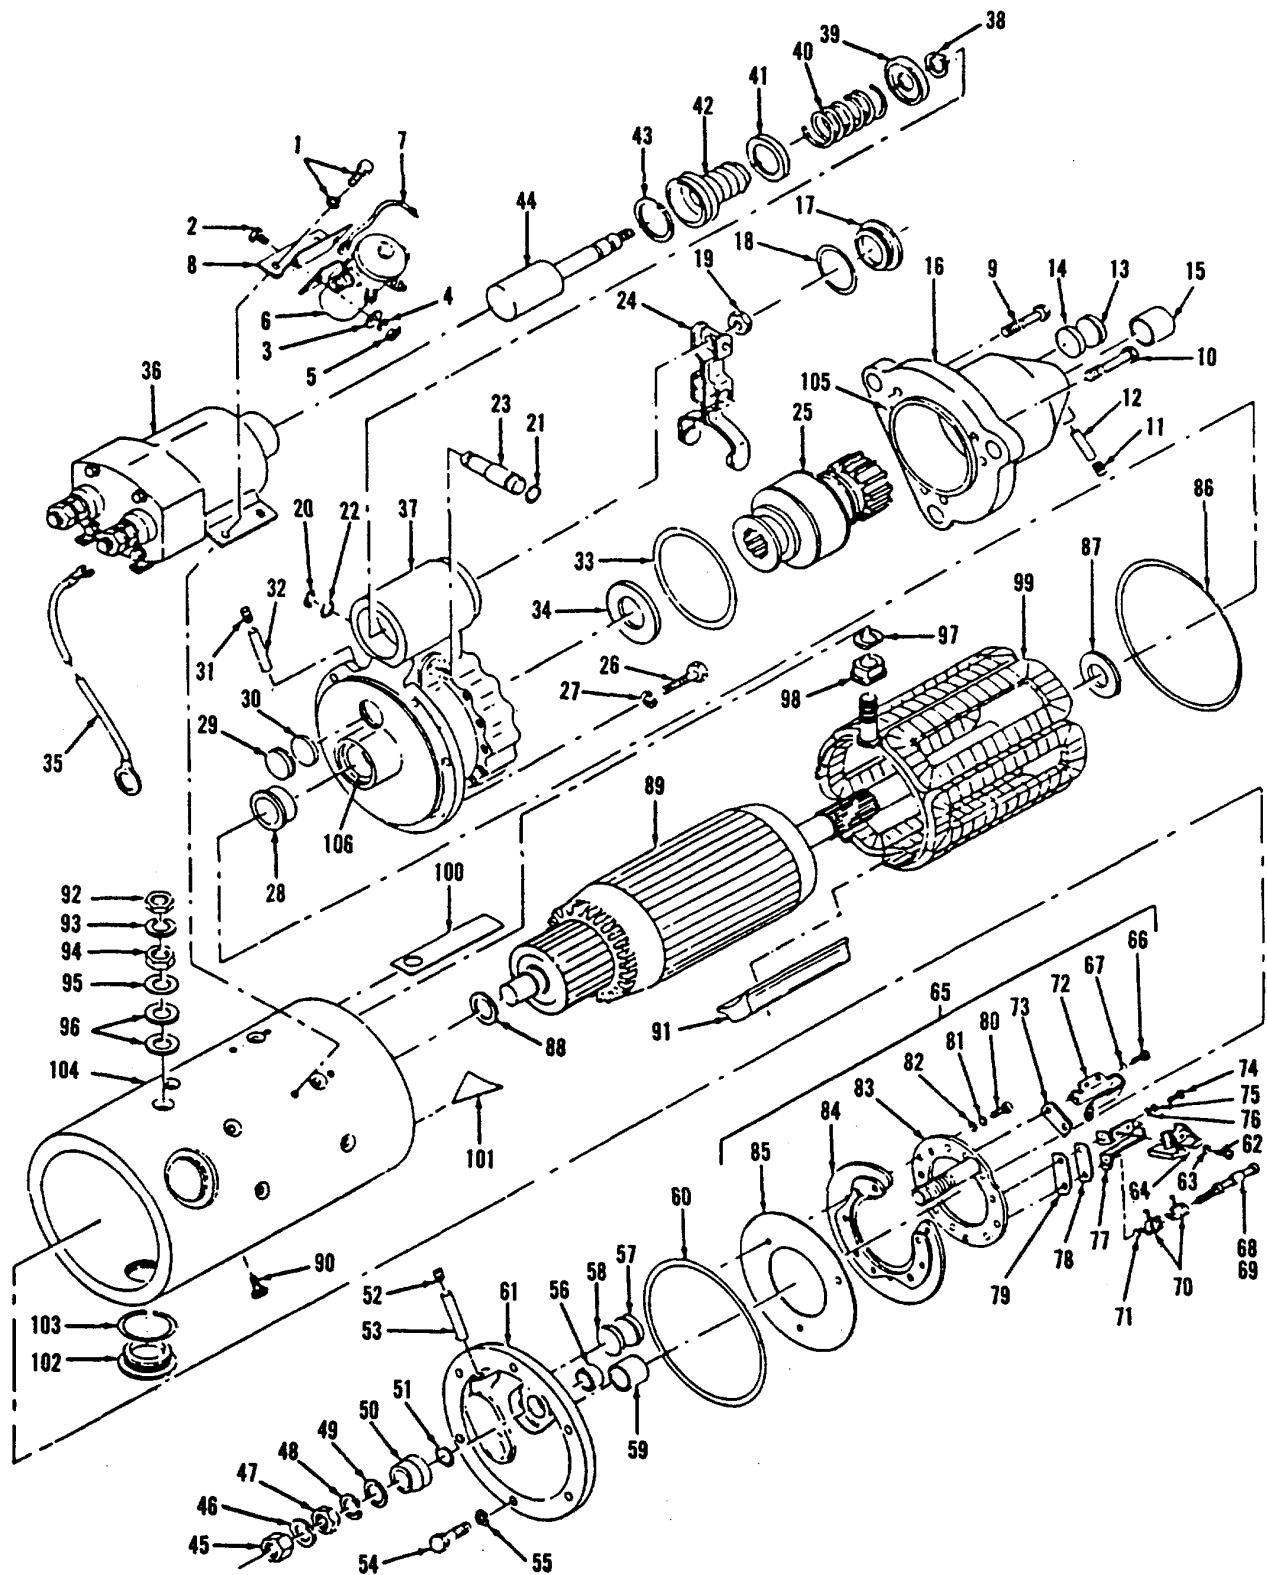
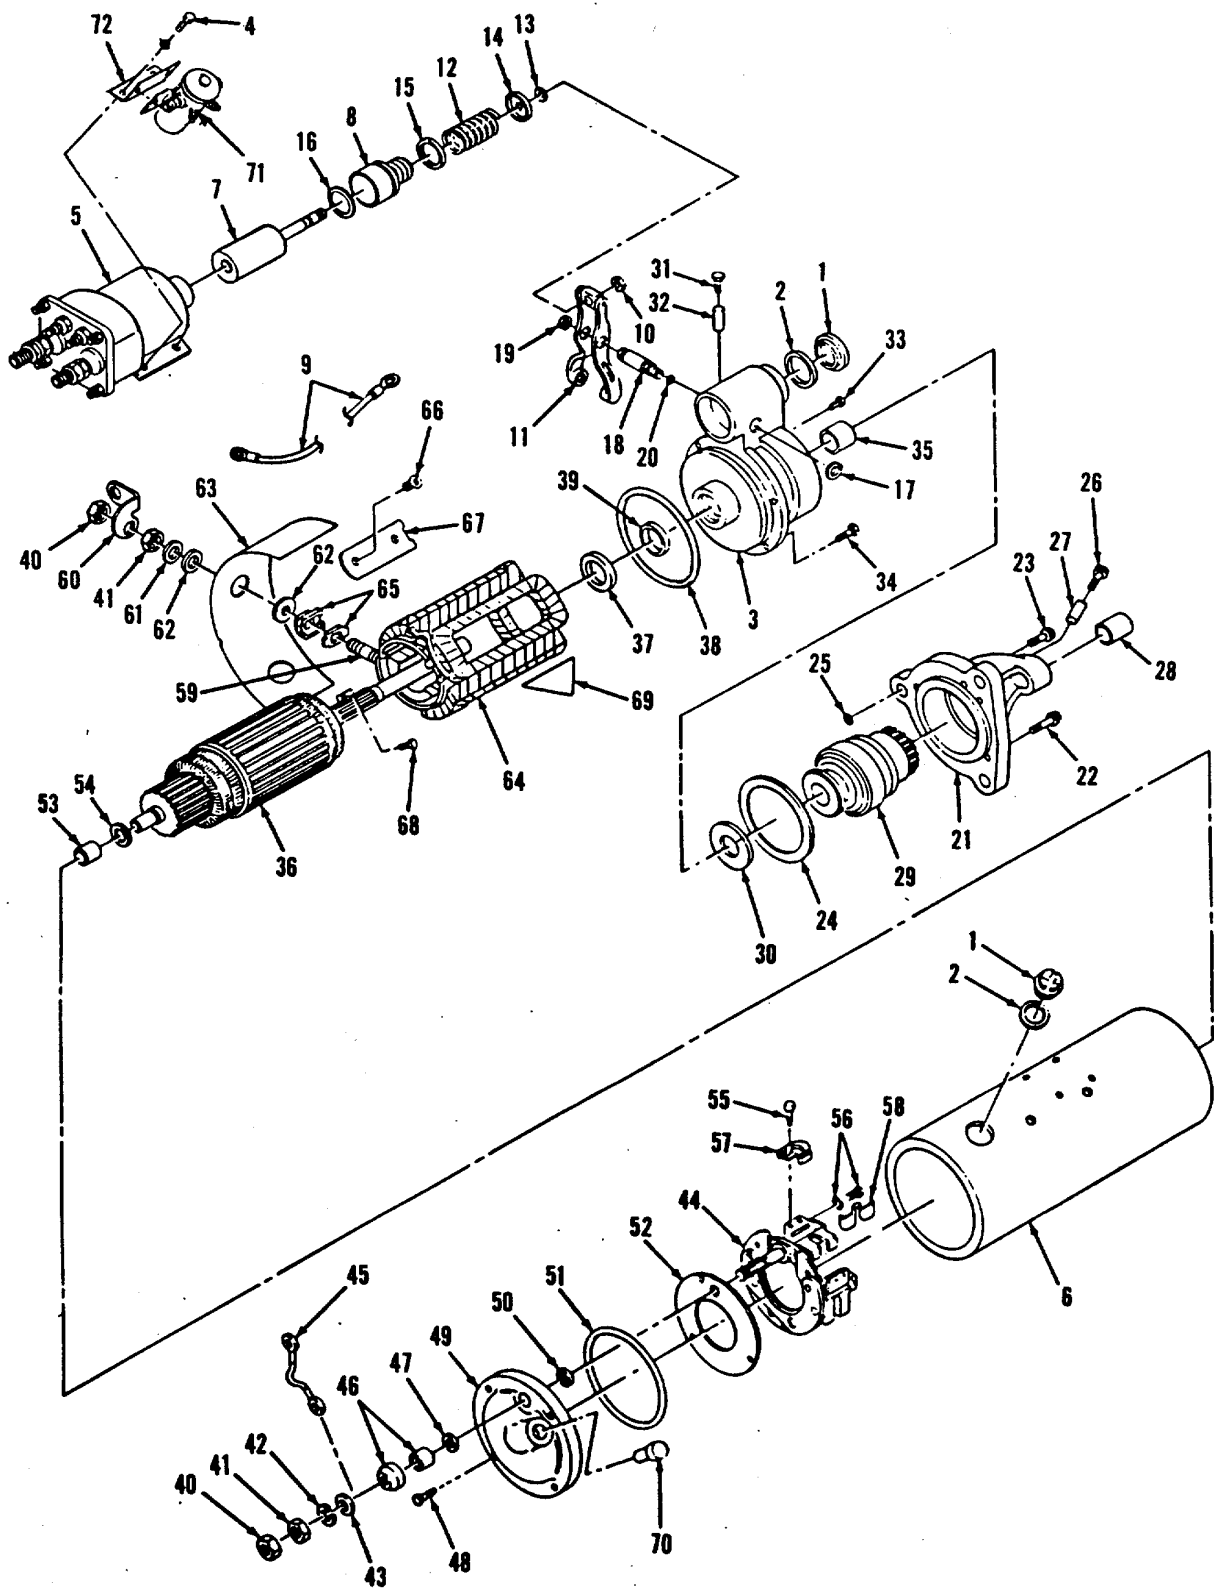

Figure 13-4. Starter Assembly, Exploded View (Code A)
Figure 13-9. Starter Assembly, Exploded View (Code B)
battery cable connections to starter and three screws which secure housing (16, figure 13-4) to engine. Tag and remove wires to the pilot relay (6, figure 13-4).
- b. Inspection. Remove inspection plug (102, figure 13-4). If any brush is less than 3/8 inch (9.5 mm) long, the complete set of brushes should be replaced.
- c. Test. Testing of the starter motor assembly consists of a no-load test of the complete unit and component tests to determine part serviceability. Before conducting the no-load test check the armature for freedom of rotation. Use a screw driver to turn the pinion on the exposed drive assembly (25, figure 13-4) in the drive housing (16). Tight bearings, bent armature shaft, or a loose pole shoe screw will cause armature binding. If the armature does not turn freely, disassemble the unit immediately. If the armature rotates freely, conduct the no-load test below before disassembling the motor.
- (4) Disassemble the starter motor, inspect and test components as necessary.
- d. Disassembly. Disassemble the starter motor only to the extent necessary to repair or replace defective parts. Disassemble in accordance with figure 13-4.
- (1) Note the relative positions of the nose housing (16), lever housing (37), and solenoid switch (36) so that the motor can be reassembled in the same manner.
- (2) Tag and disconnect the field coil connector from the solenoid M terminal and lead from the ground terminal.
- (3) Remove four screws and
LEGEND FOR FIGURE 13-4
- (1) Turn down commutator in an appropriate lathe.
- (2) Undercut the insulation 1/32 of an inch wide and 1/32 of an inch deep. Remove any trace of dirt or copper dust between slots.
- (3) Sand the commutator lightly with No. 00 sandpaper to remove any burrs resulting from the undercutting procedure.
l. Assembly. Assemble the motor in accordance with figure 13-4.
- (1) Install the pole shoes (91) and secure with pole shoe screws (90).
- (2) Install the armature (89) and field coil (99) in the housing (104).
- (3) Install the lever housing (37) with screws (26), and washers (27)..
- (4) Position the washer (34) and gasket (33) in the lever housing and install the drive assembly (25) in
- (1) Install three screws through housing (37, figure 13-4) to secure starter to engine assembly.
- (2) Attach battery cable connections and connect wires to the pilot relay (6, figure 13-4).
- (3) Secure bypass oil filter assembly bracket to engine with six screws.
- (4) Attach bypass oil filter.
- (5) Install ether lines with the six support clamps and screws.
- a. Removal. Remove starter motor by removing battery cable connections to starter and three screws which secure housing (21, figure 13-9) to engine. Tag and remove wires to the pilot relay (6, figure 13-4).
- b. Inspection. Remove inspection plug (1, figure 13-9). If any brush is less than 3/8 inch (9.5 mm) long, the complete set of brushes should be replaced, para. 13-6 d (21).
- (7) Turn plunger rod nut (10, figure 13-9) clockwise to reduce clearance and counterclockwise to increase clearance as necessary to achieve a pinion clearance of 0.328 to 0.390 inches (8.33 to 9.9 mm). Apply pressure on stud to prevent turning while adjusting.
- (8) After completing adjustment, disconnect battery from G and S.
- (1) Remove four brush inspection plugs (1, figure 13-9) and gasket (2) from lever housing (3). Discard gasket.
LEGEND FOR FIGURE 13-9
- (1) Clean all parts except armature (36, figure 13-9), field coils (64), electrical solenoid (5), and drive assembly (29) in cleaning solvent P-D-680, Type II and blow dry with compressed air.
housing (6, figure 13-9) and stator housing (21) for cracks or other damage.